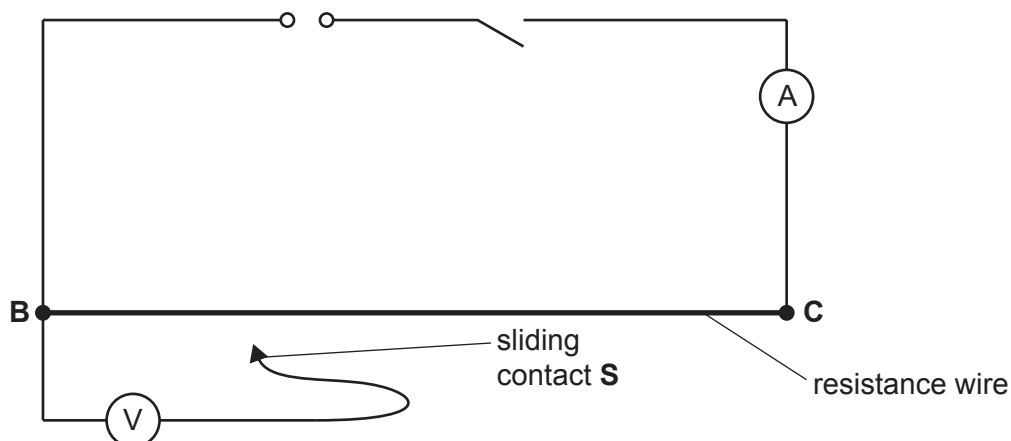

Fig. 2.1
- (vi) Two suitable terminals (e.g. crocodile clips) attached to the constantan wire at the ends of the metre ruler so that connections can be made to the circuit shown in Fig. 2.1. The terminal at the zero end of the ruler is to be labelled 'B'. The terminal at the other end of the wire is to be labelled 'C'.
- (viii) Sufficient connecting leads to set up the circuit shown in Fig. 2.1.
1. The circuit is to be set up for the candidates as shown in Fig. 2.1.
Check that the circuit is arranged as shown in Fig. 2.1.